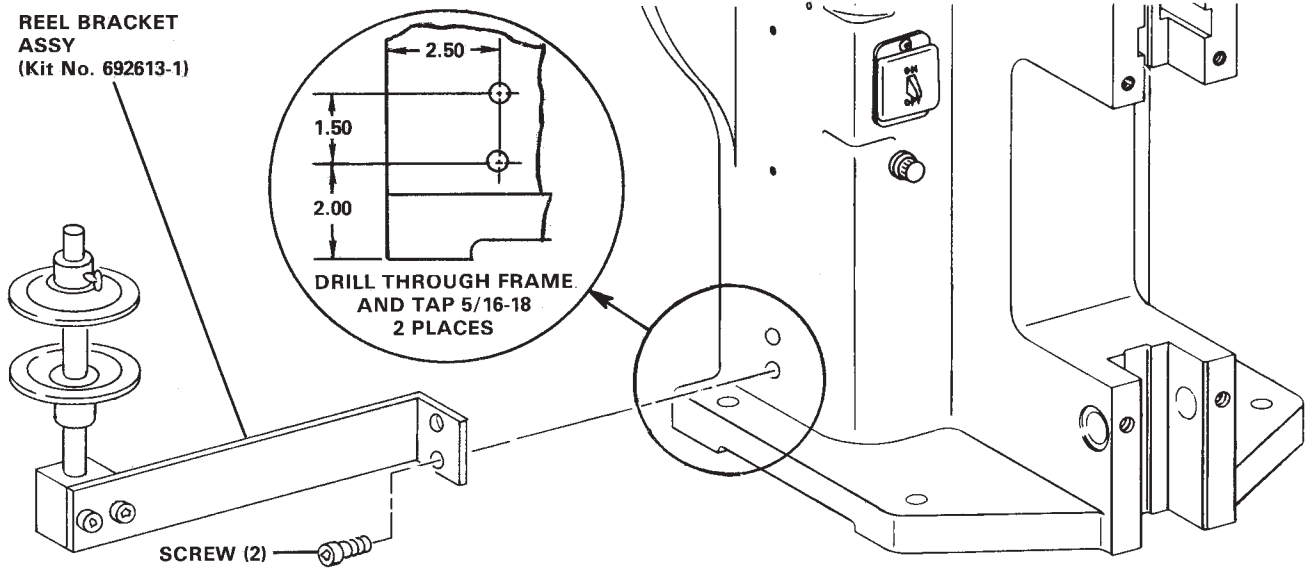

Figure 3
NOTE: KIT NO. 690675-2 SHOWN. REFER TO FIGURE 3 FOR KIT NO. 692613-1\*.
### 2.2. Kit No. 692613-1 Installation (Figure 3)
1. Lay out the machine frame for holes as shown in Figure 3.